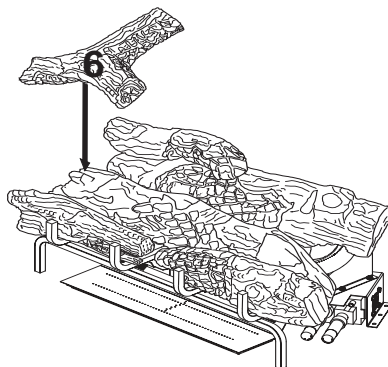

Figure 40 - Installing Log # 6
6. Place the left top front log (#6) on the top of the middle log and the left top back log. Match the rectangular projection on top of the middle log with the rectangular hole on the bottom of the left top front log. The left top front log will rest on the flat part of the left top back log. See Figure 40.